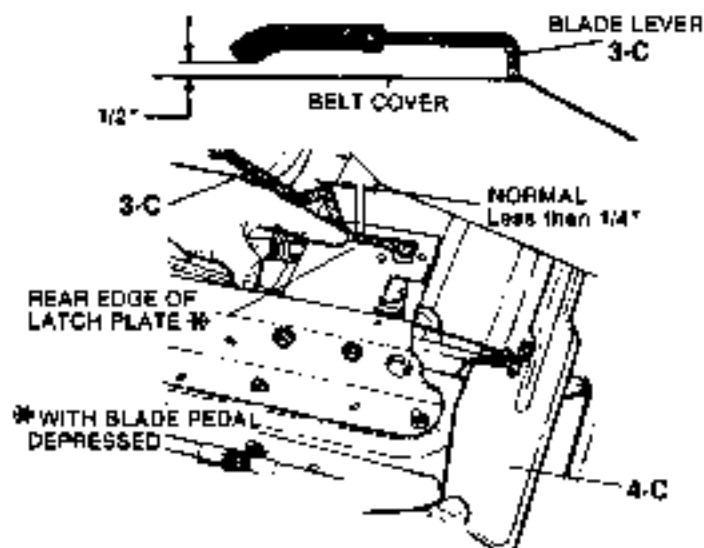

FIG. 10 - BLADE LEVER TRAVEL
**STEP 4:** Release the BLADE pedals to allow the BLADE lever to move to the OFF position, then depress the BLADE pedals again and check the clearance between forward edge of the BLADE lever and the rear edge of the latch plate which should be less than  $1/4"$  (FIG. 10). Repeat the procedure in step 2 if needed to obtain correct clearance. When correct, hold the BLADE lever rearward and turn the jam-nut tight against the T-nut to lock in new position. Reinstall BELT COVER.